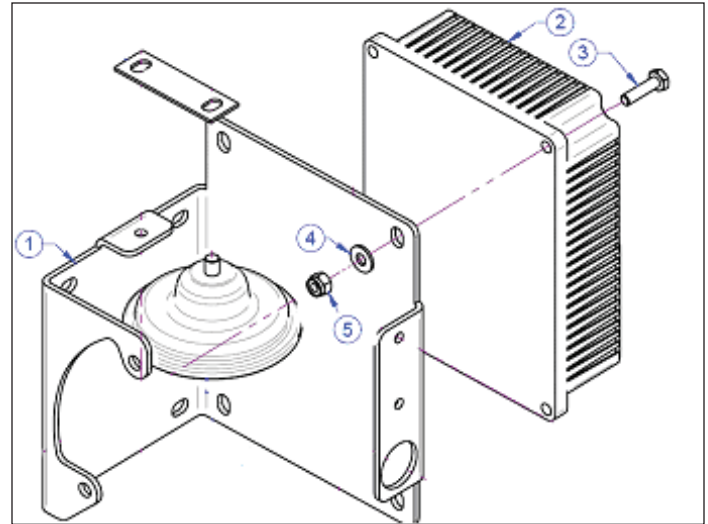

Figure 10-23. Controller Mounting
3. These fasteners are SAE. Remove four nuts (5), washers (4), bolts (3) and controller (2). See Figure 10-23.
1. Position new controller (2) to mounting bracket (1). Secure controller (2), with four bolts (3), washers (4) and 4 nuts (5). Figure 10-23.